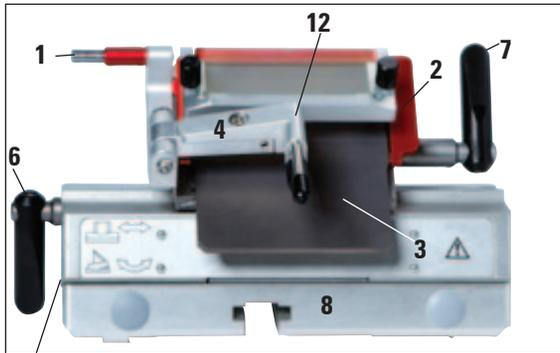
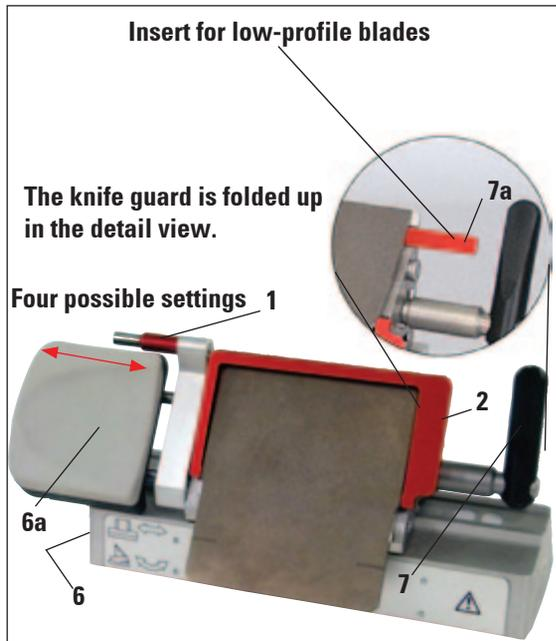

Fig. 12
Fig. 14
- Blade ejector (1) and knife guard (2)
- Clearance angle adjustment (5) with 4 mm Allen key (see detail image, to left at blade holder) - recommended angle from 2° to 5°.
- Lever (6) for the lateral movement
- Lever (7) for clamping the blade
- Insert for low-profile blades (7a, Fig. 14) for insertion into Premium blade holder.
- Clearance angle adjustment with 4 mm Allen key (see 5, Fig. 12, to left at blade holder) - recommended angle from 2° to 5°.
- Lever (6) for the lateral movement (must point downward to permit unhindered shifting of finger rest)
1. To release the segment arc (1) from the base, use a 4 mm Allen key to loosen the screw over the clearance angle adjustment (2) and remove the segment arc (1) from the blade holder base.
2. Fold the anti-roll system (3) to the left using the lever (4).
3. Open the clamping lever (5) by turning it counterclockwise.
4. Hold pressure plate (6), and remove bolt (7).
5. Afterwards, the pressure plate (6) can be removed for cleaning (with alcohol).
6. To remove the upper part (8) from the segment arc (2), release the blade holder clamping lever (6, Fig. 12) by rotating it clockwise and pulling it out. The blade holder can now be moved sideways until it slides off the segment arc.